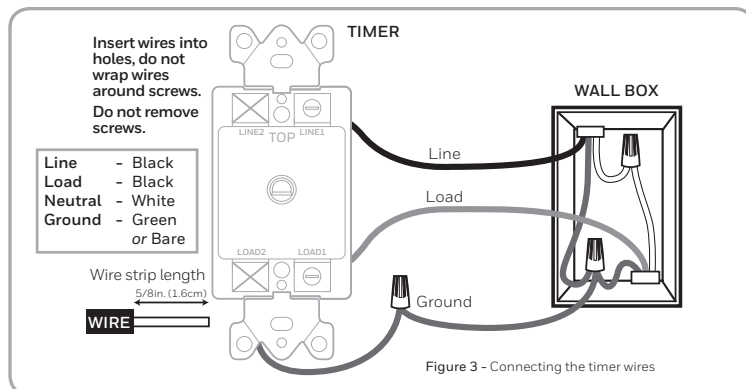

Figure 3 - Connecting the timer wires
5. Loosen the LINE1 and LOAD1 screws (see Figure 3) with either a flat-head or Phillips head screwdriver. When loosening screws, stop when you feel resistance.